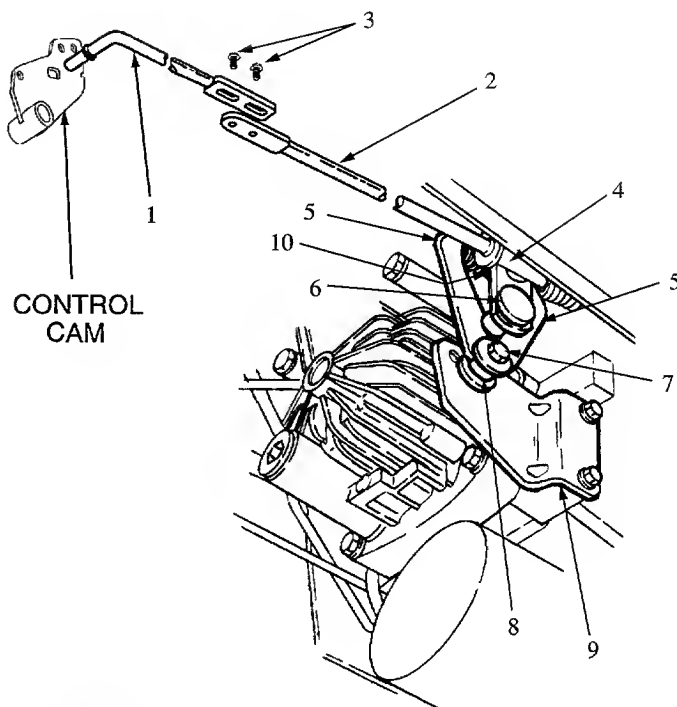

Figure 15. Model 2155 Shown.
Only the Model 2155 hydro transmission is pictured in Figure 15. However, the components referred to in the figure also apply for the Model 2150.
- a. Disconnect the rear control rod from the control arm by removing the hairpin cotter from the pivot sleeve (Refer to Figure 15).
- c. If wheel rotation continues, loosen the locknut securing the hex cap screw and centering spacer to the neutral bracket (See Figure 15).
Adjust the control rod (See Figure 15) as follows:
2. While making certain to not move the front control rod, control cam or control arm (See Figure 15), slide the rear control rod in the direction necessary to directly align the pivot sleeve pin with the appropriate hole (upper hole for 2150 - lower for 2155) of the control arm.